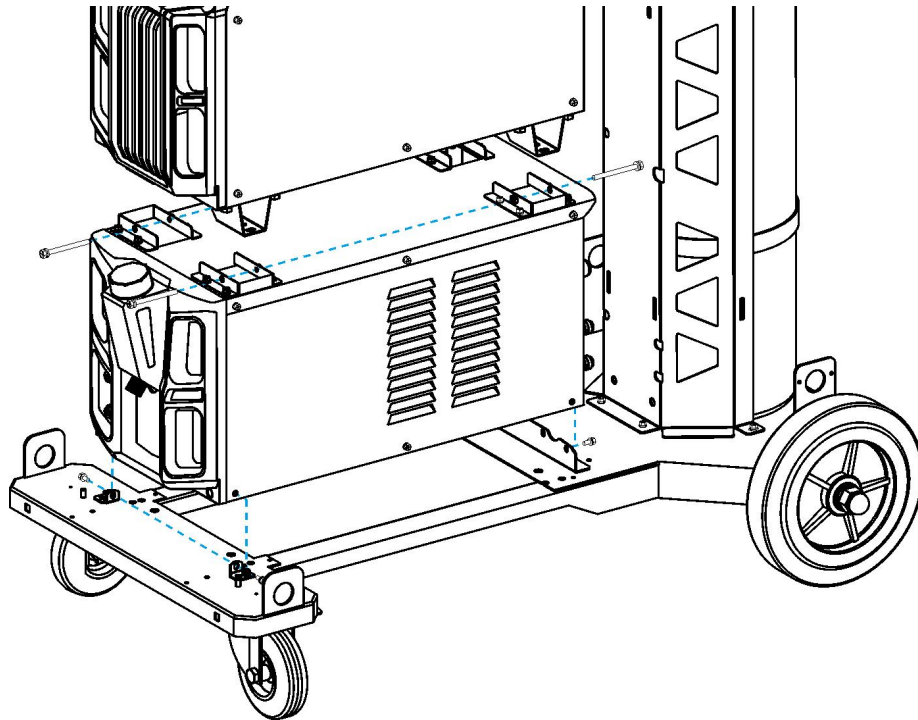

Figure 2-1 Water cooler installation diagram
1. Place water cooler on the trolley and fix with screws and bolts, as shown in Figure 2-1;